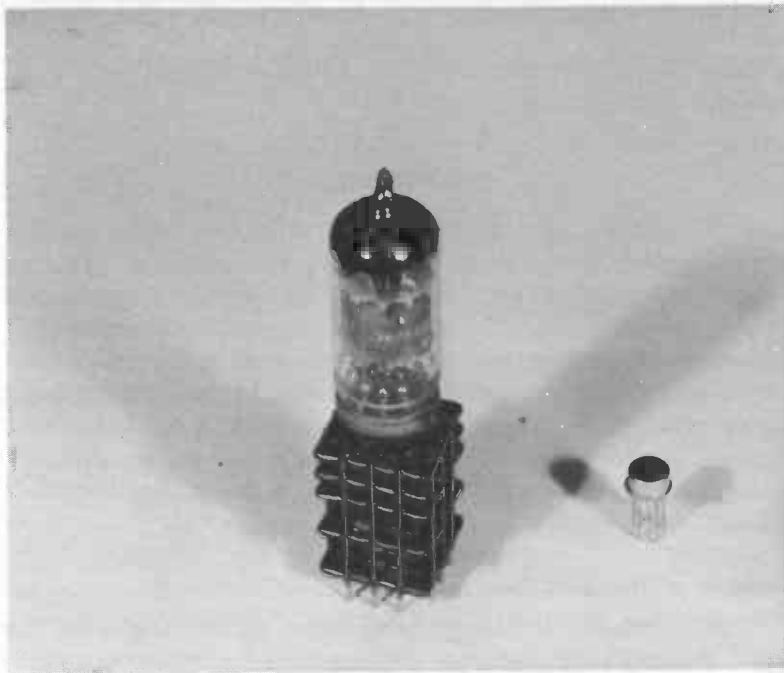
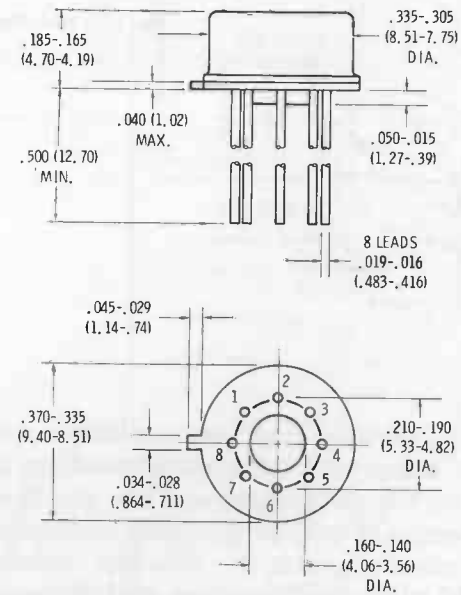
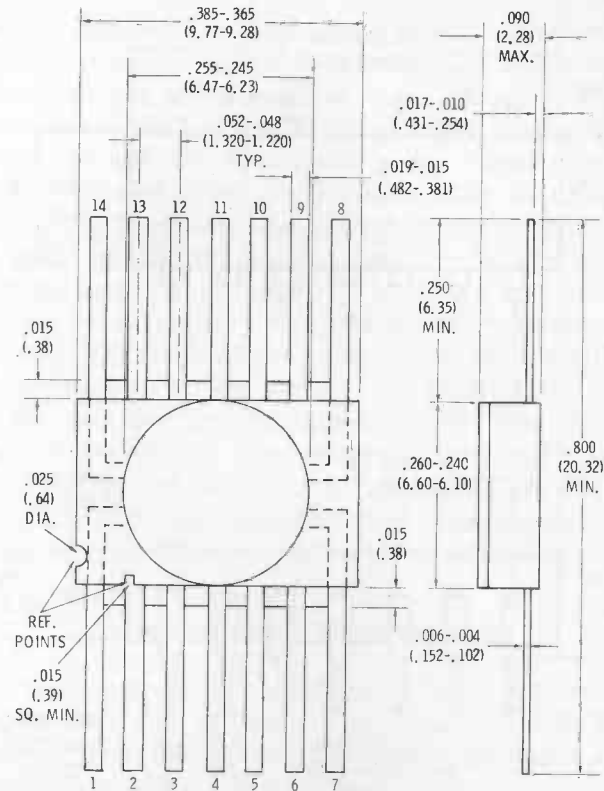

Fig. 1-1. Ten years of progress—a module and an integrated circuit.
Fig. 1-10. TO-5 8-lead package.
Fig. 1-14. 14-lead ceramic-to-metal flat package.
All conventional modules employ discrete components; that is, they have definite resistors, capacitors, and coils. The first modules employed tubes and hand wiring; later ones used tubes and printed circuits. For example, the left unit in Fig. 1-1 is a tube-type, printed-circuit audio amplifier module employing “tinkertoy”-type construction. It uses a dual-triode tube, four resistors, and two capacitors. Still later modules employed transistors and hand wiring and, most recently, transistors and printed circuits.
The integrated circuit (IC) carries size reduction of the module into the realm of microminiaturization. Its dramatic achievement is easily shown: The unit at the right in Fig. 1-1 is an integrated circuit housed in a TO-5 transistor can (0.37-inch diameter, 0.18-inch height, 12 leads); but, in spite of its tininess, it contains 6 transistors, 2 diodes, 17 resistors, and all of the “wiring” between these components, which forms the internal circuit. Thus, in only 0.37 percent of the volume of the module on the left, the IC provides a circuit containing a great many more components.
ages of these six types). In the back row are three IC's housed in the transistor-type metal can mentioned earlier (at rear left is a 12-lead IC, at rear center is a 10-lead one, and at rear right is an 8-lead one). At center left is a 14-lead dual in-line ceramic IC; at center right is a 14-lead dual in-line plastic one. In the front of the group is a 14-lead ceramic-to-metal flat package. Dimensions of these units are given in Figs. 1-10 to 1-15. Special miniature sockets or fixtures are available for inserting either of these IC's into a circuit; or the IC's may be soldered directly into a printed circuit or wired circuit.
Integrated circuits are supplied in several types of small packages (see, for example, Figs. 1-1, 1-2, 1-3, and 1-8). The shapes and dimensions of common packages are given in Figs. 1-10 to 1-15.
In Figs. 1-10 to 1-15, dimensions are given in inches (dimensions in millimeters are shown in parentheses). The terminal arrangements and numbering are shown in bottom views of the IC's, except that Figs. 1-14 and 1-15 are top views.